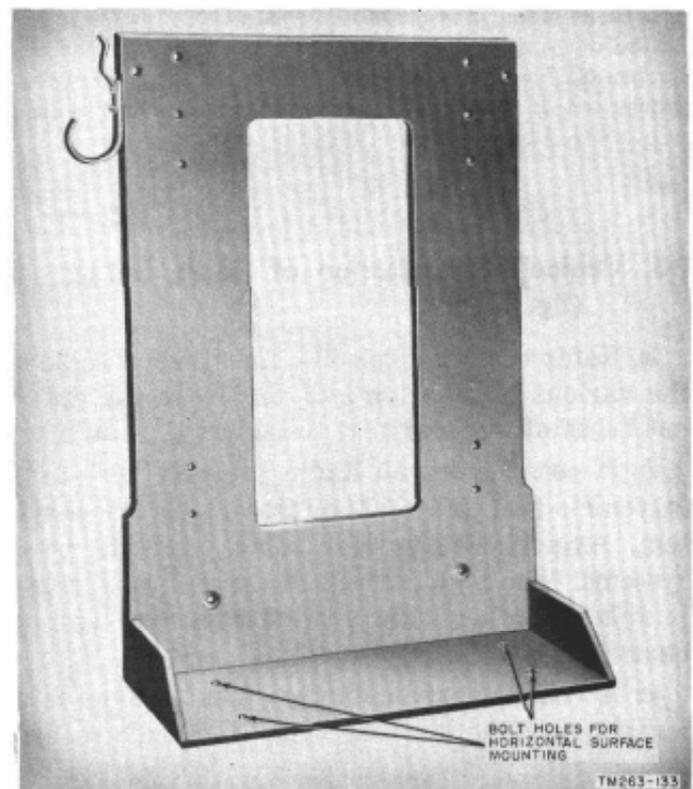
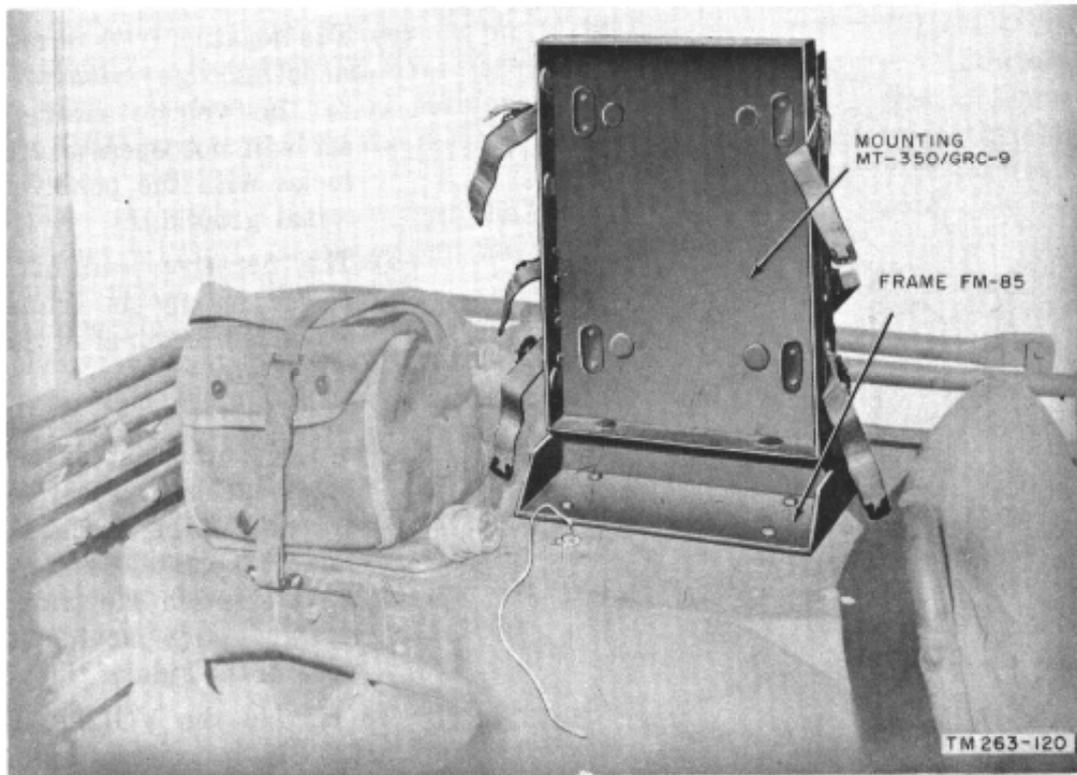

Figure 35. Frame FM-85.
Figure 36. Mounting MT-350/GRC-9 and Frame FM-85, installed in vehicle.
*b.* Use Mounting MT-350/GRC-9 (fig. 4) to support and shock mount the receiver-transmitter. Mounting MT-350/GRC-9 is fastened directly to a vertical surface in the vehicle, with the hardware provided. If a horizontal surface is selected, install Mounting MT-350/GRC-9 on Frame FM-85, part of vehicle installation kit (fig. 35). Figure 36 shows the mounting and frame installed in a vehicle.
f. Connect a ground lead (as short as possible) from the GND. post on the receiver panel to a nearby grounded metal portion of the vehicle (fig. 36).